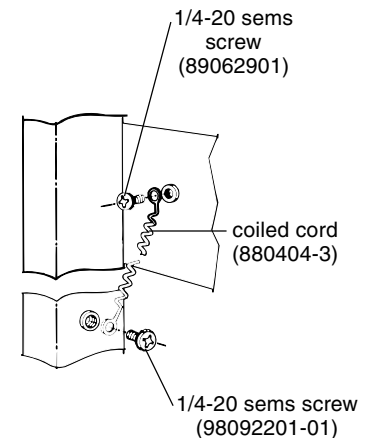

Figure 5
1. Using 1/4-20 sems screws provided, attach one end of coiled cord to threaded insert located on back side of shelf and other end to one the the frame's two (2) threaded grounding locations. (Figure 5)